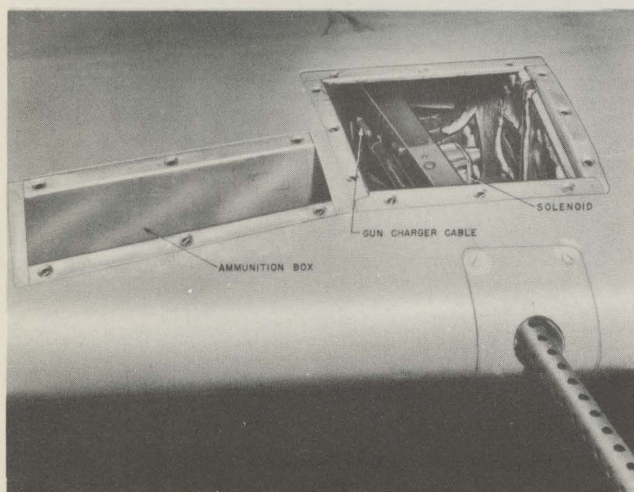

FIG. 9—FIXED WING GUN
a. FIXED GUNS (See figures 9 and 10.)—Provisions are incorporated in the airplane for the installation and operation of two model M-2, .30-caliber Browning fixed machine guns, one at the right upper side of the fuselage forward of the front cockpit firing through the propeller arc and the other in the right outer wing panel leading edge near the center section. Charging the wing gun is effected by a charging cable assembly terminating in a charging control handle located in the pilot's cockpit to the right and below the pilot's electrical control panel. On some earlier airplanes preflight charging was provided for the wing gun